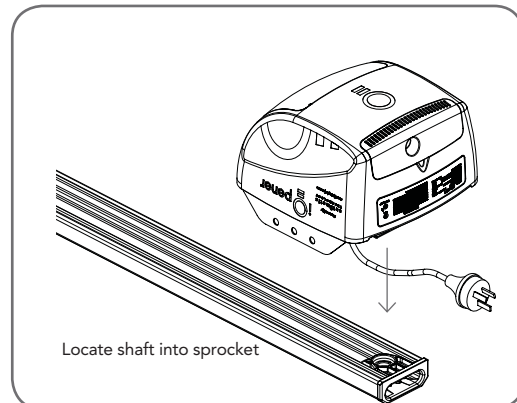

fig 08
- a. Locate and insert the shaft of drive unit into the C-Rail's sprocket (**Fig. 08**).